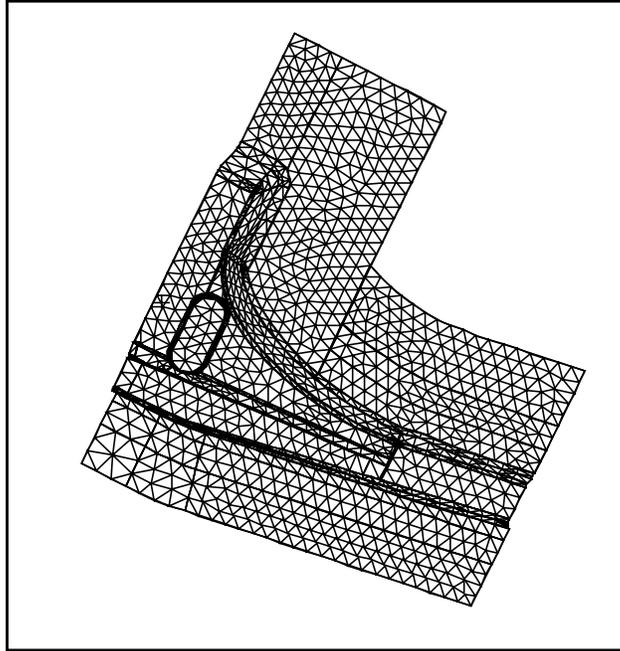

Figure 3-2 Continuous Tria3 Mesh.
- creates a continuous mesh from the CAD geometry, as shown in **Figure 3-2**.